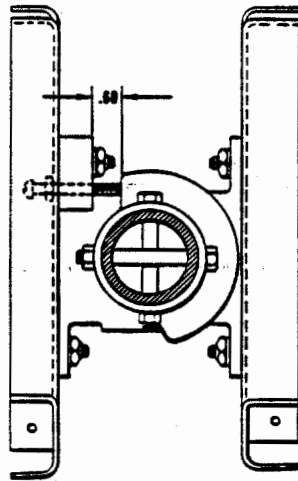

Figure 5-15. Flap Stop Adjustment
- c. To adjust the flap up stop and step lock, loosen the jam nut of the right torque tube stop screw, located in the floor opening along the outer end of the flap torque tube, and turn the stop screw to obtain approximately .60 of an inch between the stop fitting and the bearing block as measured along the top side of the screw. (Refer to Figure 5-15.) It may be necessary to loosen the adjustment screw of the left stop.